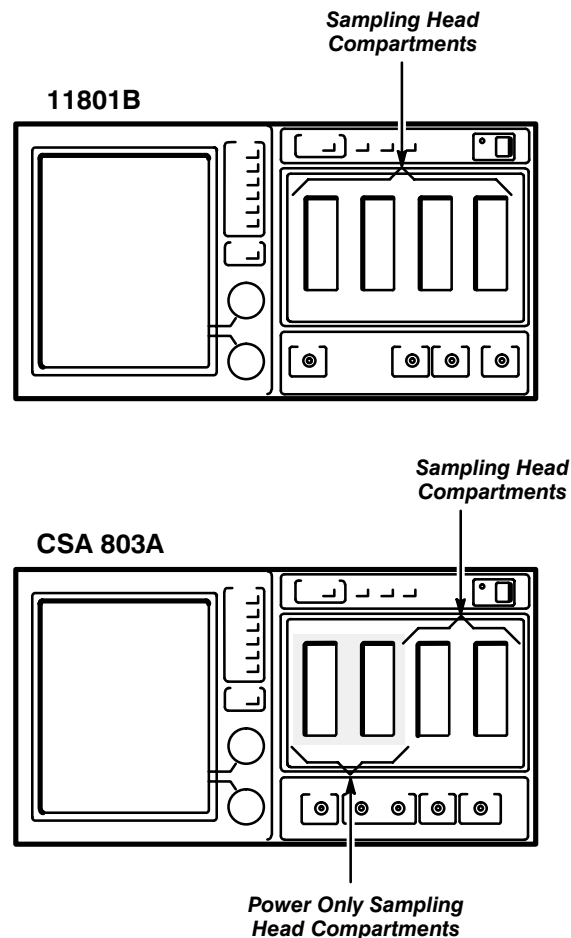

Figure 2: Sampling Head Compartments in an 11801B and a CSA 803A
- Figure 2: Sampling Head Compartments in an 11801B and a
The SD-24 TDR/Sampling Head fits into the front panel of a compatible instrument, such as the 11801 Series Digital Sampling Oscilloscopes or CSA 803 Series Communications Signal Analyzers. Figure 2 shows the front panel of an 11801B Digital Sampling Oscilloscope and a CSA 803A Communications Signal Analyzer and the locations of the sampling head compartments. Note that on the CSA 803 Series, only two compartments provide signal acquisition capability. The other two compartments only provide power, for example to power an optical-to-electrical converter.